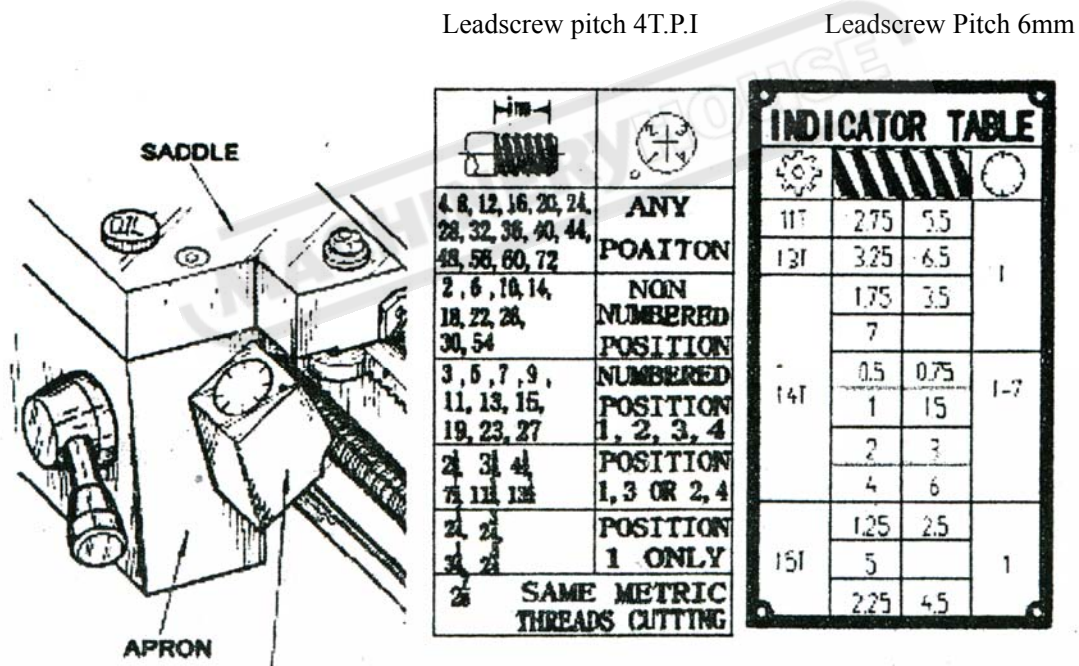

Fig.12
when fitting chucks or faceplates, first ensure that spindle and chuck tapers are scrupulously clean and that all cams lock in the correct positions; see Fig.12 it may be necessary to re-set the cam lock studs (A) when mounting a new chuck. To do this, remove the cap-head locking screws (B) and set each stud so that the scribed ring (C) is flush with the rear face of the chuck-with the slot lining up with the locking screw hole. See fig.13.